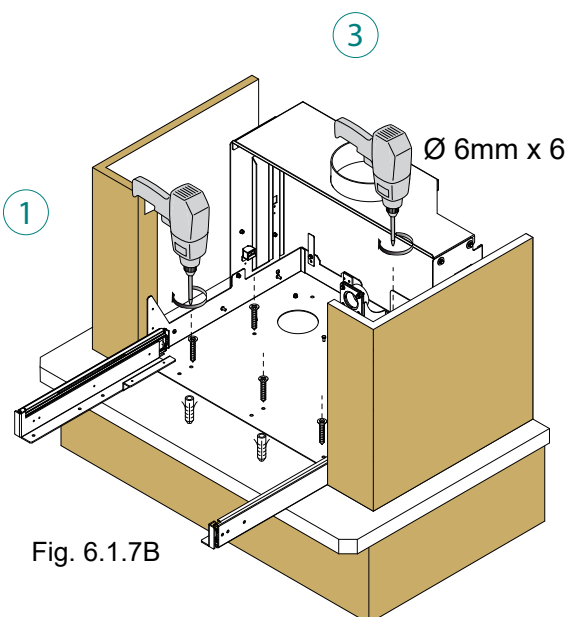

Fig. 6.1.7B
13. Insert the 6mm screw plugs in the holes and fix the base with the screws. (3) - (Fig. 6.1.7B)